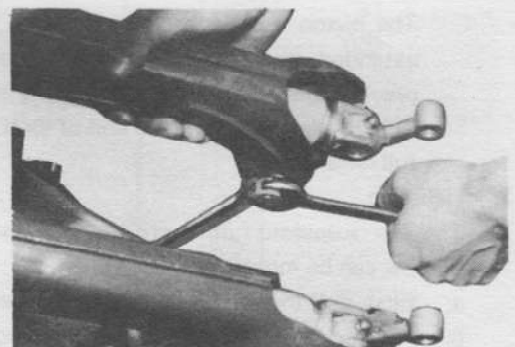

Fig. 4-5
4. Take off the front arm bolts. (Fig. 4-5)